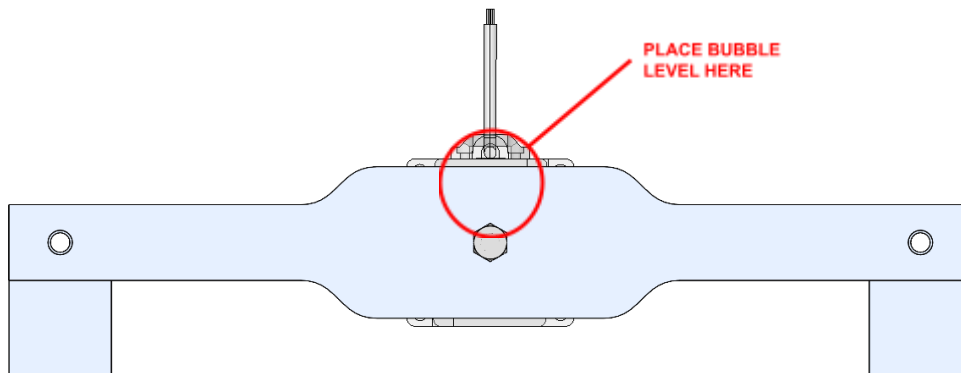

Fig. 2: Bubble level placement diagram
1.04: Place bubble level onto leveling system radial strut as shown in Fig. 2.	OK? _____
1.10: Place bubble level onto leveling system frame radial strut as shown in Fig. 2.	OK? _____